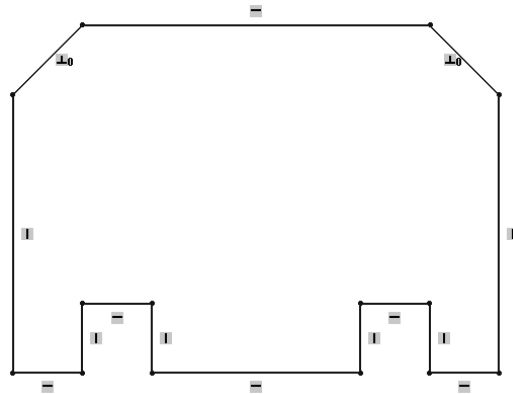

Figure 2-67 Outer loop of the sketch
22. Choose the **Zoom to Fit** button from the **Heads-up View** toolbar to fit the current sketch on the screen. The outer loop of the sketch is completed and is shown in Figure 2-67. Note that in this figure, the display of the grid is temporarily turned off for a better visibility. This can be done by right-clicking in the drawing area and choosing the **Display grid** option from the shortcut menu.